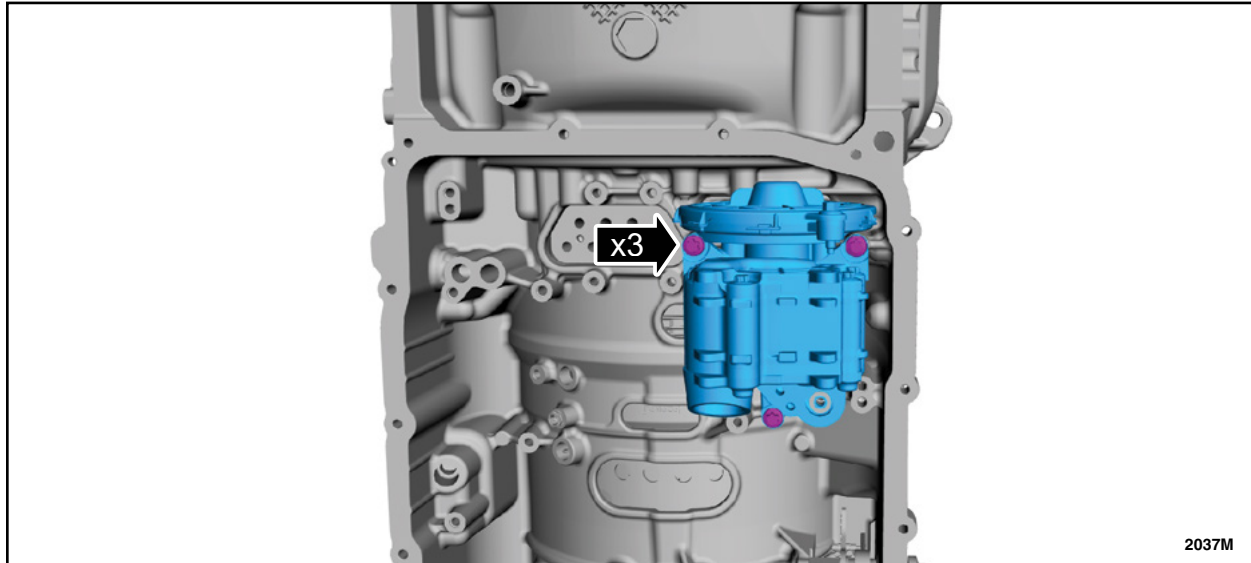

FIGURE 6
8. Remove the bolts and the transmission fluid pump. See Figure 6.